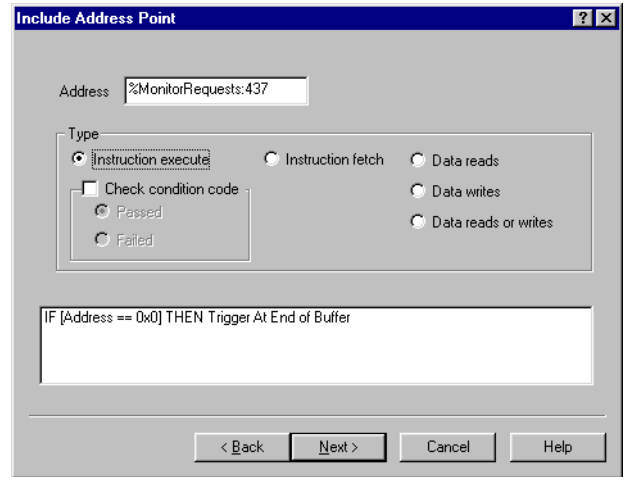

Figure 8-33 Include Address Point dialog box
4. Click on **Next>**. The Include Address Point dialog box shown in Figure 8-33 on page 8-35 is displayed.